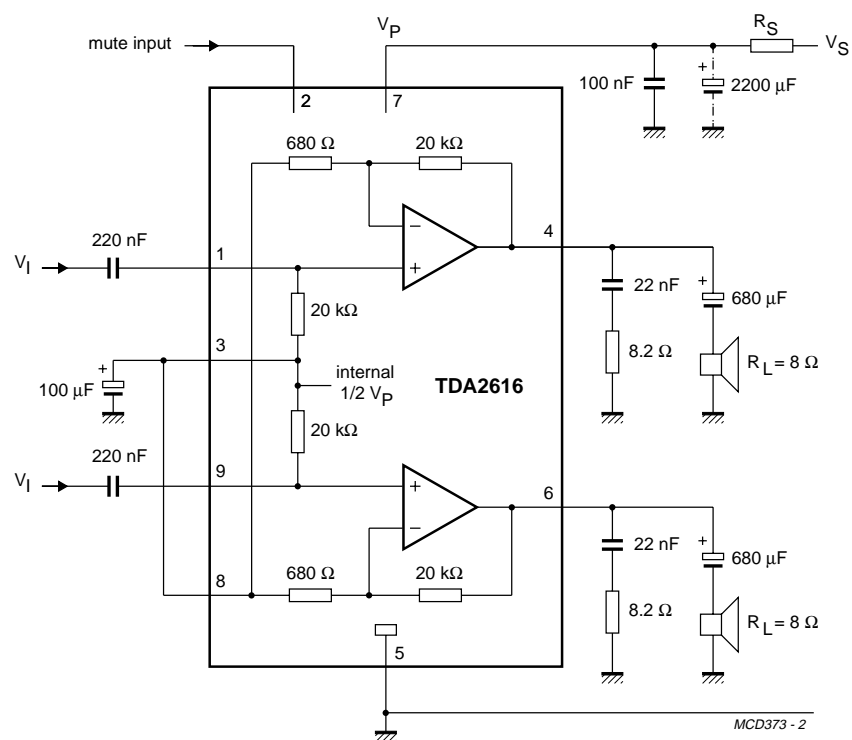

Fig.5 Test and application circuit with asymmetrical power supply.
- $V_{\text{P}} = 24 \text{ V}$; $R_{\text{L}} = 8 \Omega$; $T_{\text{amb}} = 25 \text{ }^\circ\text{C}$; $f = 1 \text{ kHz}$; asymmetrical power supply $I_{\text{MUTE}} < 30 \mu\text{A}$. See Fig.5